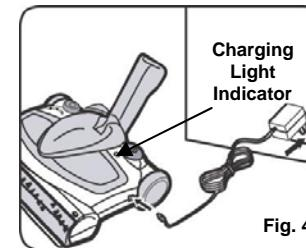

Fig. 4
1. Connect the charger plug to the charging jack or hole on the side of the sweeper. Plug the charging adapter into the wall outlet. (120V., 60Hz.) Use only **charger Kuantech KA12D120015023U**. (Fig. 4)